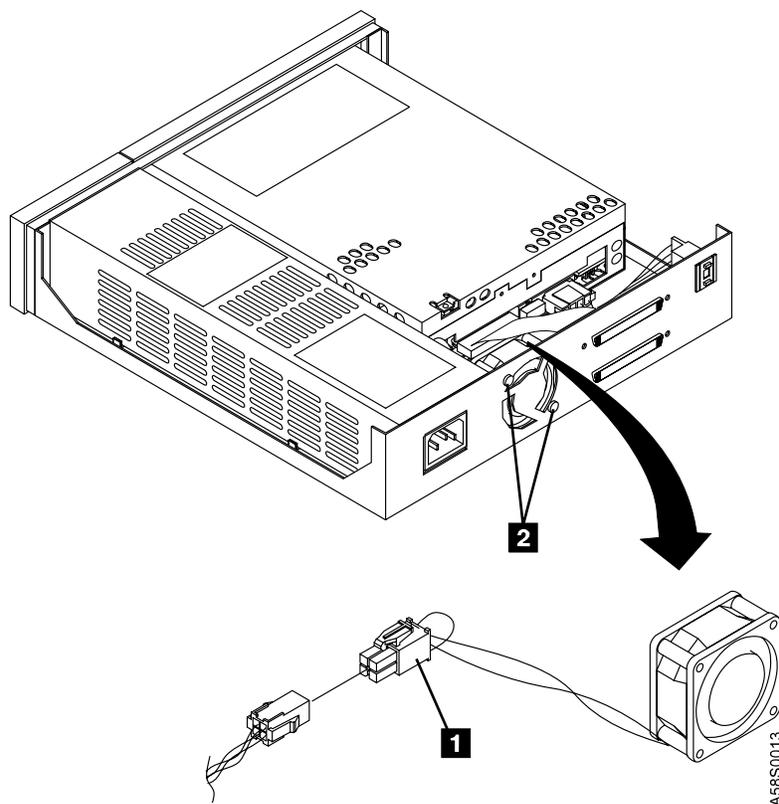

Figure 14. Removing and Replacing the Cooling Fan
2. Disconnect the power supply connector (J2) ( **1** in Figure 14) between the power supply and the cooling fan.